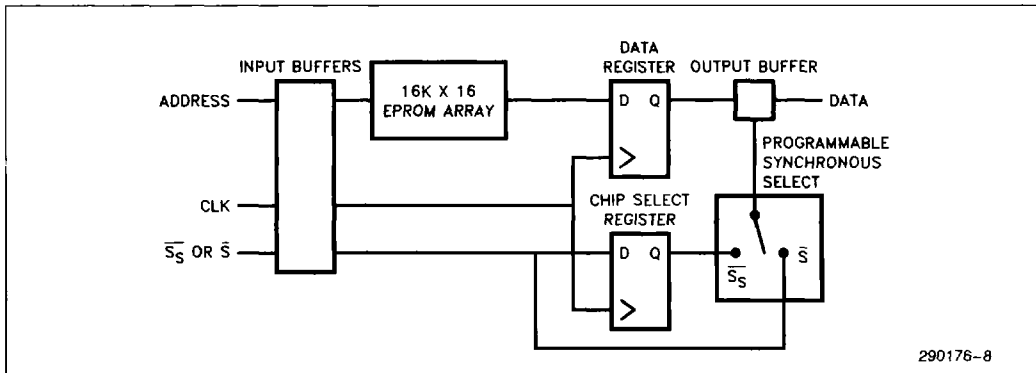

Figure 3. 27C203 Functional Diagram
The 27C203 read operation is synchronous. Data registers on the output buffers (Figure 3) allow high-bandwidth, pipelined read operations without the additional components that would normally be required. By using these data registers along with a programmable initial word feature, state machine designs can be implemented without the use of external latches.
The chip select (output enable) can be programmed to be synchronous (\overline{S}_s) or left in the default asynchronous state (\overline{S}) (Figure 3). The chip select is programmed to be synchronous in pipelined bus applications so the data output triggers off the rising edge of the clock (C) signal. In state machine applications, the chip select can be programmed or left unprogrammed, depending on the needs of the design. Pipelined and state machine applications are detailed below.